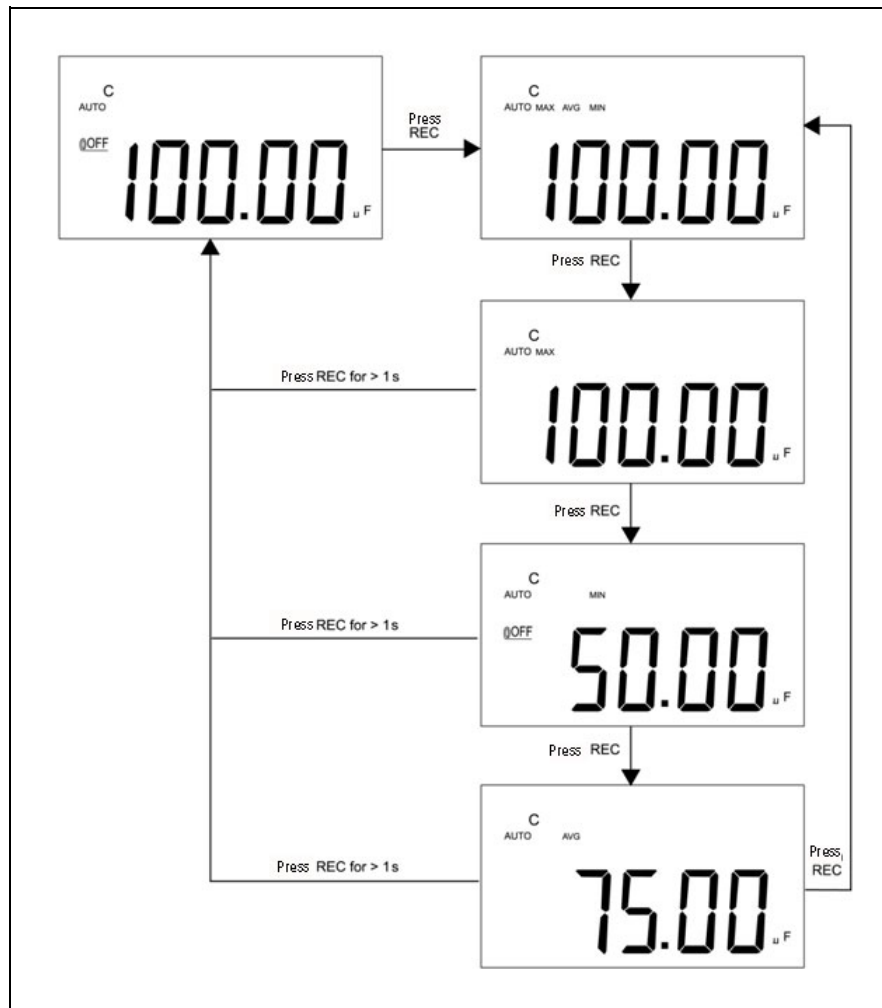

Figure 2-1 Tolerance operation
- 2 Press this key momentarily to cycle through maximum, minimum, average and present readings. The **MAX**, **MIN**, **AVG** or **MAX AVG MIN** annunciator turns on respectively to indicate which value is being displayed (see Figure 2-1).